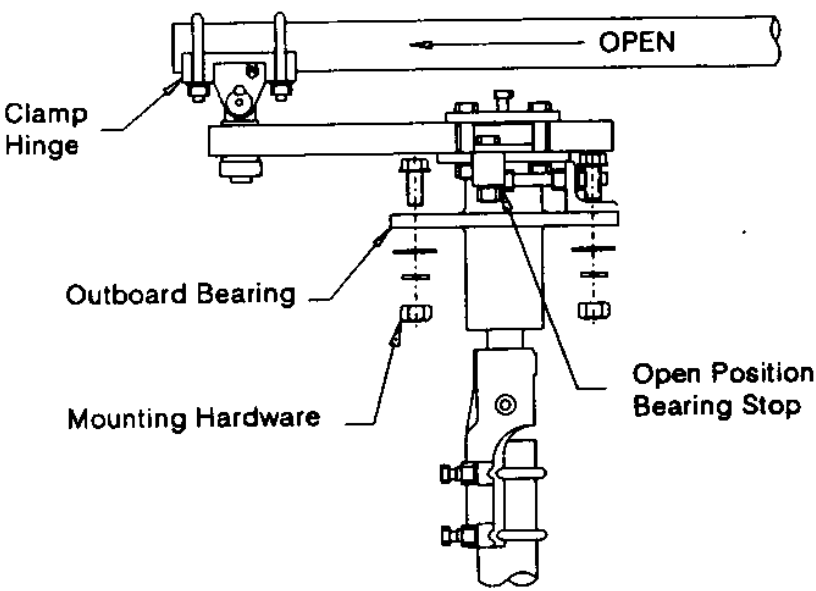

Figure 23 -- Outboard Bearing
3. Install the outboard bearing assembly shown in Figure 23 using kit #3. Check orientation against drawings such that bearing stops are in the proper location.